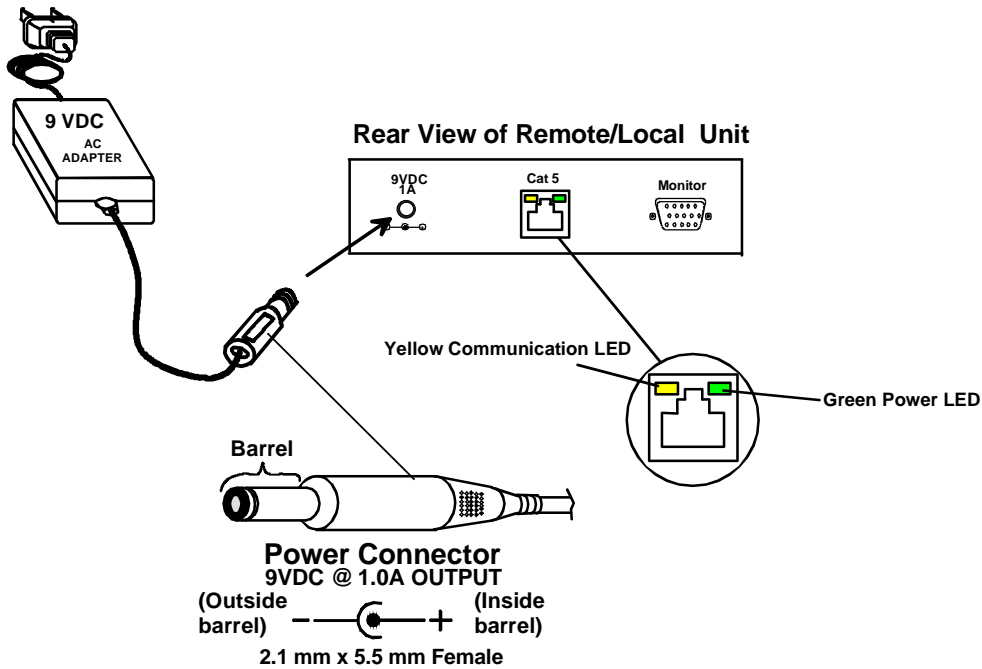

Figure 4- Connect the AC adapters
2. Connect each AC adapter power connector to the 9VDC ports on the Remote and Local Units. Make sure the power connectors go into each port all the way. Plug each AC adapter into a power outlet. The green LED on the RJ45 connector of both the Remote and Local Units should illuminate, indicating that a proper power connection has been made to them. (See Fig. 4.)
Note: The yellow LED on each RJ45 connector will blink anytime data traffic is passing between the Local and Remote Units, indicating proper CAT5 cable connection and communication. (See Fig. 4)